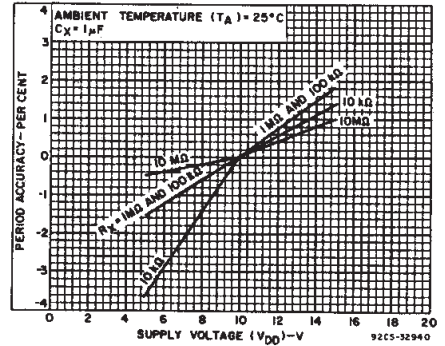

Fig. 11—Typical astable oscillator or Q, Q̄ period accuracy vs. supply voltage.
B. Variations Due to V_{DD} and Temperature Changes — In addition to variations from unit to unit, the astable period varies with V_{DD} and temperature. Typical variations are presented in graphical form in Figs. 11 to 18 with 10% as reference for voltage variations curves and 25°C as reference for temperature variations curves.